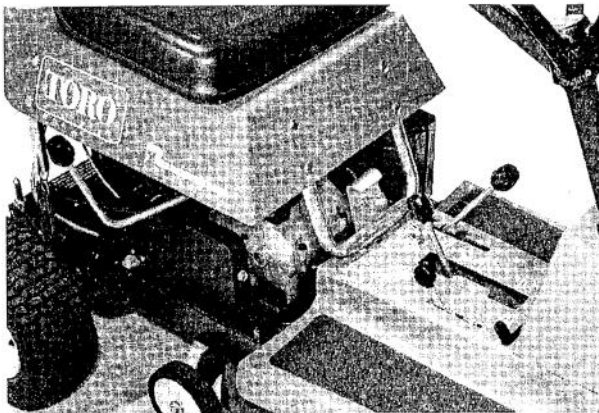
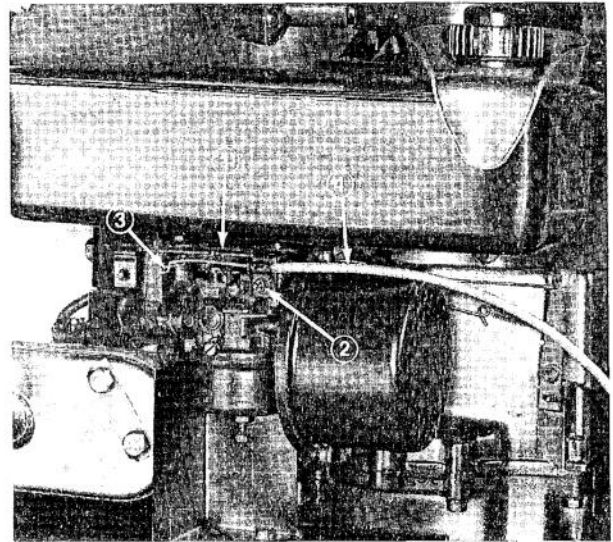

Figure 23
Figure 24
1. Move throttle control into FAST detent position (Fig. 23). Hole in carburetor control arm and hole in plate must line up (Fig. 24). If holes line up proceed to step 3. If holes do not line up, an adjustment is required: proceed to step 2.
2. Loosen cable clamp screw and move control arm and cable until holes line up (Fig. 24). When holes are aligned, tighten cable clamp screw to hold cable in place (Fig. 24).
4. Insert element into air cleaner cover. Mount air cleaner assembly on screws and rotate it clockwise. Tighten screws so parts seat together (Fig. 24).